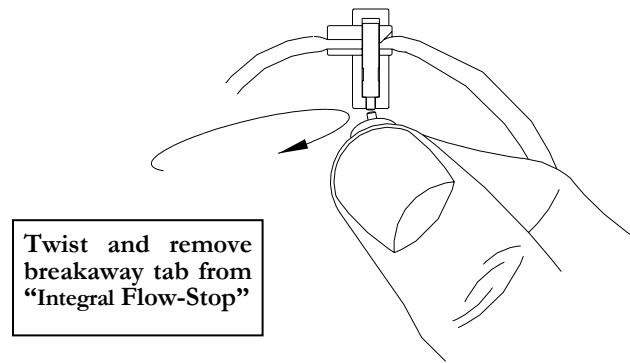

Figure 1.5 Curlin Medical Administration set “Integral Flow-Stop” with breakaway tab
- 1 To gravity prime the administration set, twist and remove the breakaway tab from the “Integral Flow-Stop”, then spike the IV bag. Squeeze the “Integral Flow-Stop” between your thumb and forefinger to allow fluid to flow through the tubing until all air is removed from the IV bag and administration set. (See figures 1.5 and 1.6.) Release the “Integral Flow-Stop” to automatically clamp the tubing. **To correctly prime a filtered set, hold the filter in a vertical position with the flow downwards allowing the filter to completely fill with fluid.**